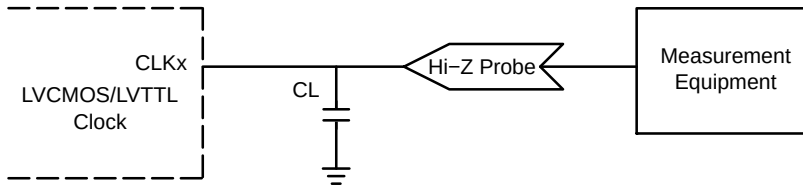

Figure 7. LVCMOS/LVTTL Parameter Measurement
5. Measurement taken with single ended clock outputs terminated with test load capacitance of 5 pF and 15 pF and differential clock terminated with test load of 2 pF. See Figures 7, 8 and 13. Specification for LVTTTL are valid for the V_{DD} 3.3 V only.